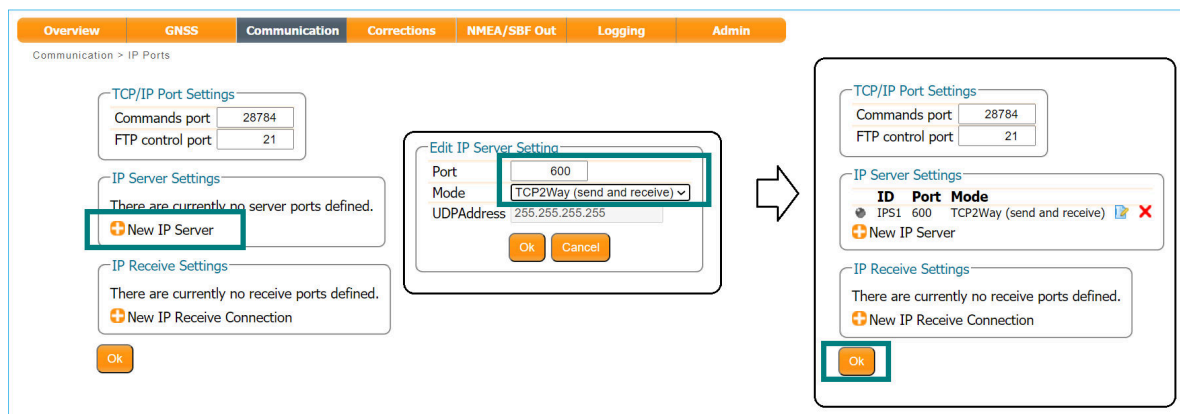

Figure 3-24: Select and configure an IP Server port on which to output differential corrections
Setup an IPS connection over which the differential corrections can be streamed. On the **IP Ports** page, click on **New IP Server** as shown in Figure 3-24, then insert the port number and mode of the connection. When choosing a port number avoid conflicts with other applications such as the commands port (28784), the webserver port (80), the FTP port (21) as well as the default NTRIP port (2101) and the NTP port (123).